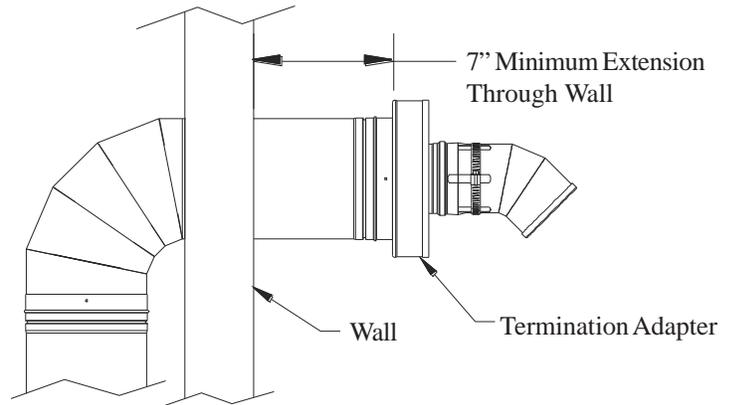

Fig 7. (Minimum Extension Through Wall)
11. Install Vertical Termination Adapter (VT). The VT can be recognized by the presence of an extra housing around the outlet end of the adapter which provides a passage way for intake air. This intake air passage way must remain free from obstruction at all times.
- a. Connect the inlet end of the VT to the vent extending through the roof or wall. Join parts using the standard DT-M joint connection method. Note: For Horizontal installation, the VT must be at least 7" from the wall (see Fig 7), and 20" from the roof in a vertical installation to meet the required 36" above the roof line.